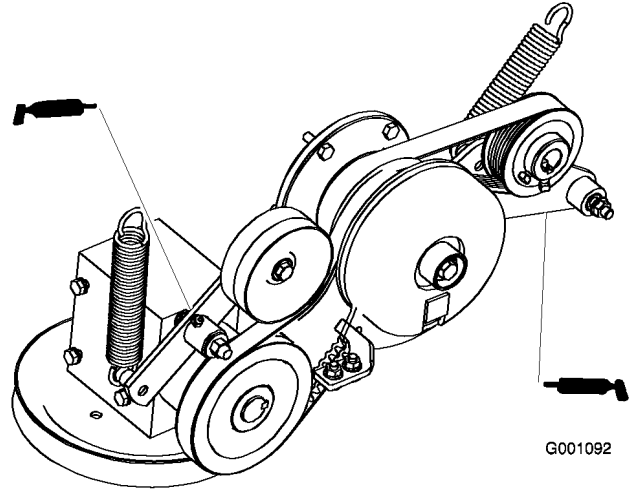

Figure 31
7. Grease the PTO drive belt idler arm (Figure 31).
8. Grease the pump belt idler arm (Figure 31).